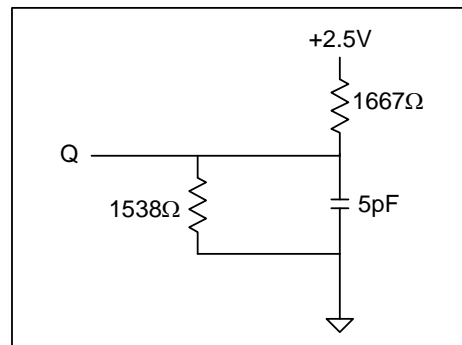

Figure 2
- The load used for V_{OH}, V_{OL} testing is shown in Figure 2. AC load current is higher than the shown DC values. AC I/O curves are available upon request.
2. Output loading is specified with C1=5pF as in Figure 2.